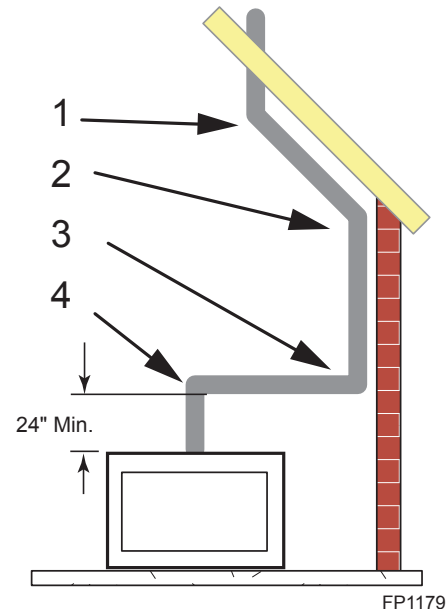

Figure 18 - Maximum Elbow Usage
- Two sets of 45°elbows offsets may be used within the vertical sections. From 0 to a maximum of 8' (2.5 m) of vent pipe can be used between elbows. *Figure 18*
- The maximum angular variation allowed in the system is 270°. *Figure 18*